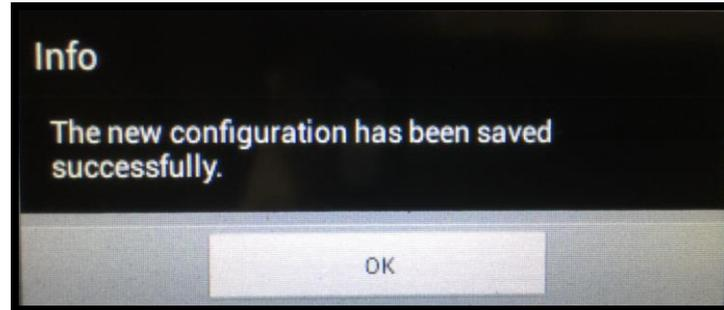

Figure 24
- b. To store the Printer IP address, the **Save** button **MUST** be pressed. After the **Save** button has been pressed a sub “Info – The new configuration has been saved successfully” window will be displayed confirming that the information has been properly saved. Press **OK** to clear the window. (Figure 24)
- a. To store the Time Zone, the **Save** button must be pressed. After the **Save** button has been pressed a sub “Info – The new configuration has been saved successfully” window will be displayed confirming that the information has been properly saved. Press **OK** to clear the window. (See Figure 24)